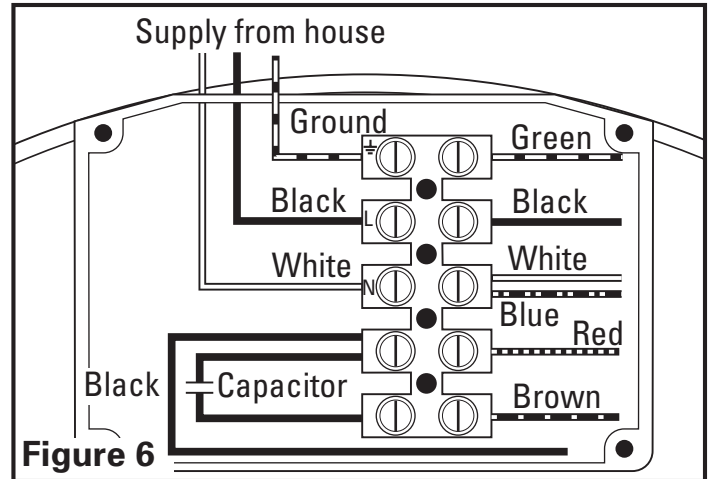

Figure 6
2. Bring incoming electrical service through the romex connector and the fan knockout. Be sure to place the connector nut over the wiring coming into the terminal box. There are three open ports on the terminal strip. Using a small regular screwdriver, tighten the Neutral (white) wire of the incoming supply under the open terminal labeled "N". Tighten the Line (black) wire of the incoming supply under the open terminal labeled "L". Tighten the Ground (green) wire of the incoming supply under the open terminal labeled "G" (**Figure 6**). For reference, a wiring diagram is included on the inside of the terminal box lid.